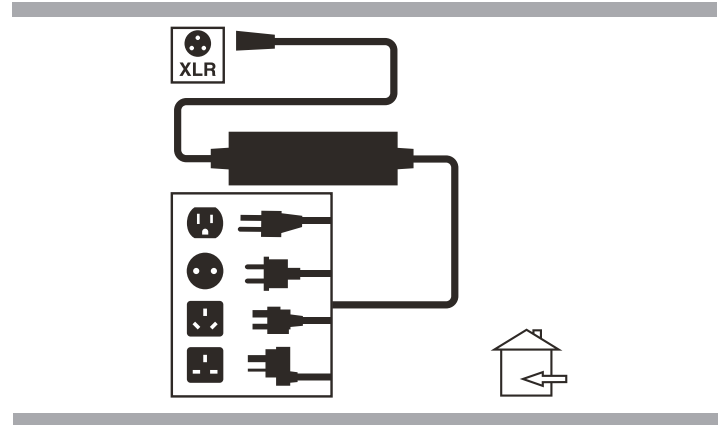

Figure 14. Battery Charger
3. Plug the off-board charger into the off-board charger/programming socket on the controller. **See figure 14.**